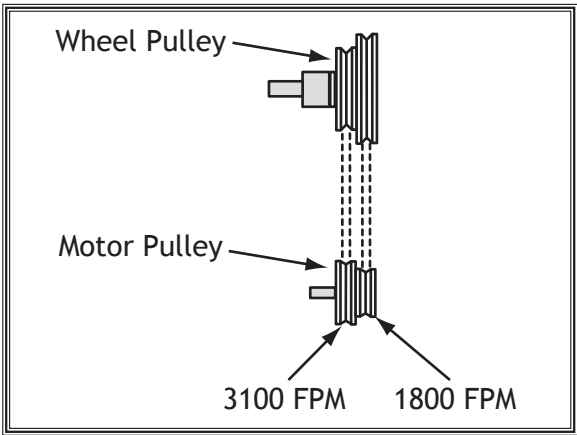

Figure 47. Belt positions for selecting the blade speed.
4. Place the belt in the wheel pulley and motor pulley grooves, as illustrated in **Figure 47**, for your desired speed.